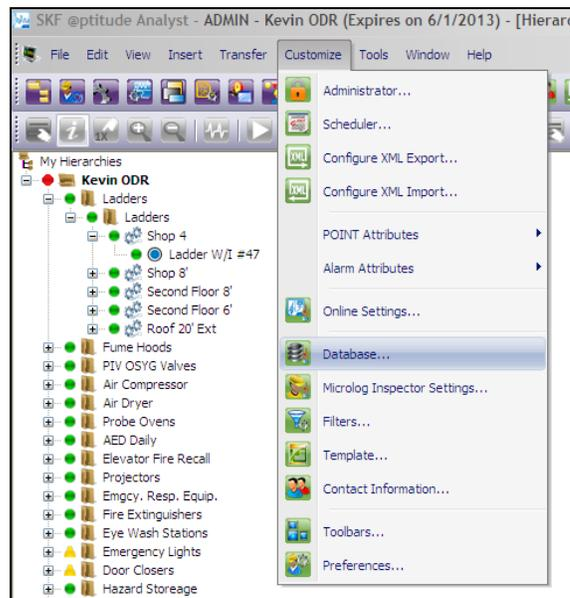

Figure 1. Customize > Database menu
1. Launch @ptitude Analyst and go to **Customize > Database**. [Figure 1]